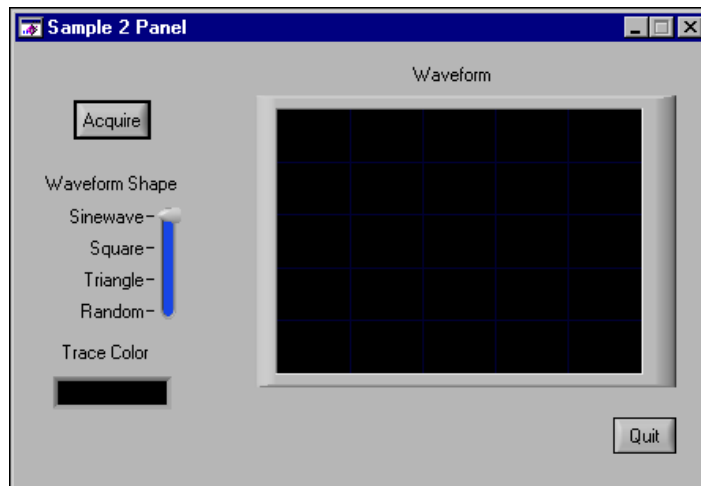

Figure 2-5. sample2.uir Panel When Running
*.uir	User Interface Editor window. Refer to Figure 2-5.
2. Run the project by selecting **Run»Debug sample2_dbg.exe** or by pressing <Shift-F5>. The GUI shown in Figure 2-5 appears after the program compiles and runs.